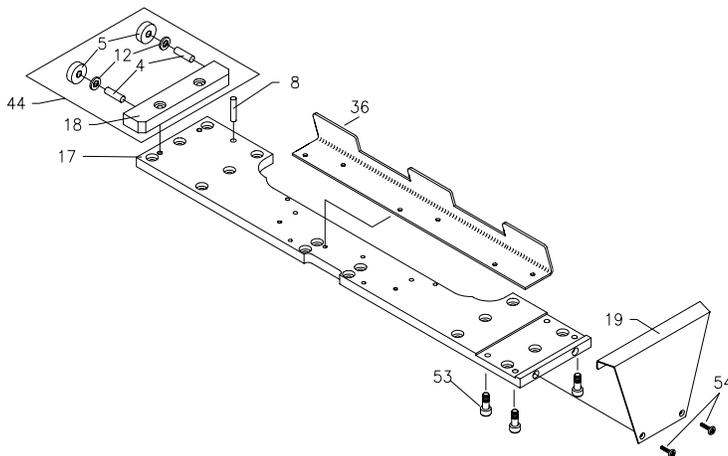

Figure 7-16: Center Clamp
4. Remove the two screws (Item 54, Figure 7-16) holding the sensor flag (Item 19, Figure 7-16) in place. Note that there is an access hole in the machine frame near the upper left corner of the infeed opening.
6. Remove the Center Clamp from the machine by removing the 4 retaining screws (Item 53, Figure 7-16). Slide the Center Clamp assembly out the left side of the machine.